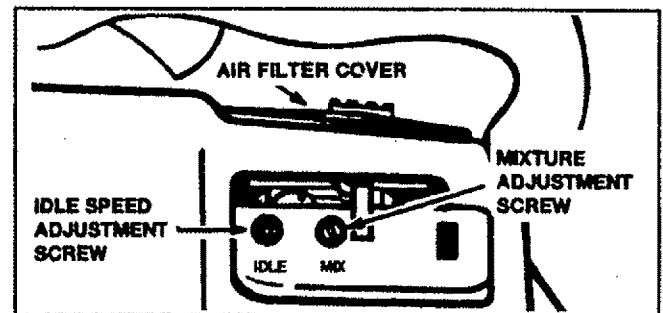

Figure 15
- Locate the two carburetor adjusting screws. Fig. 15.
- Start the engine and operate for three (3) minutes to warm up. *The engine must be warm for proper adjustments to be made.*
CARBURETOR PRESETS (Fig.15)
- Turn the mixture screw (Fig. 15) counterclockwise until it stops. If the engine accelerates and runs smoothly, no further adjustments are necessary. If not continue to next step.